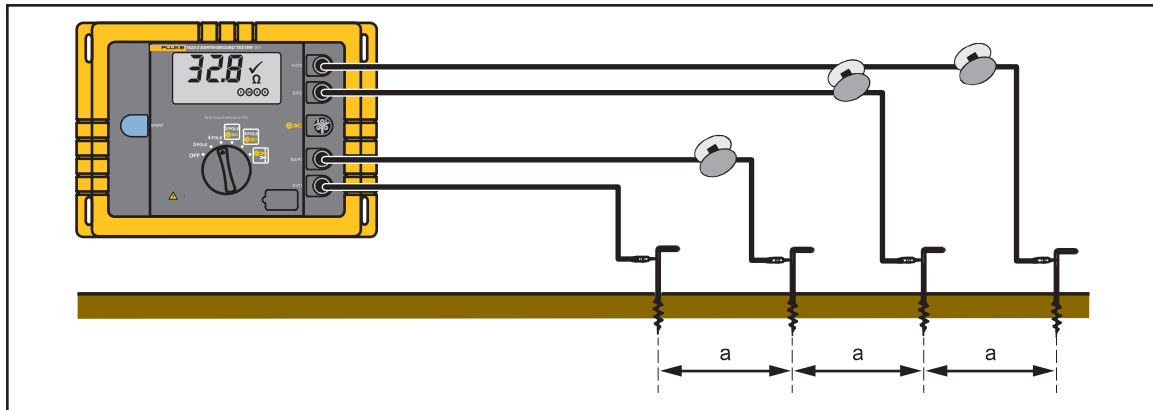

Figure 10. Measurement of Soil Resistivity
The soil resistivity is the geological and physical quantity for calculation and design of earthing systems. The measuring procedure shown in Figure 10 uses the method developed by Wenner (F. Wenner, A method of measuring earth resistivity; Bull. National Bureau of Standards, Bulletin 12 (4), Paper 258, S 478-496; 1915/16).